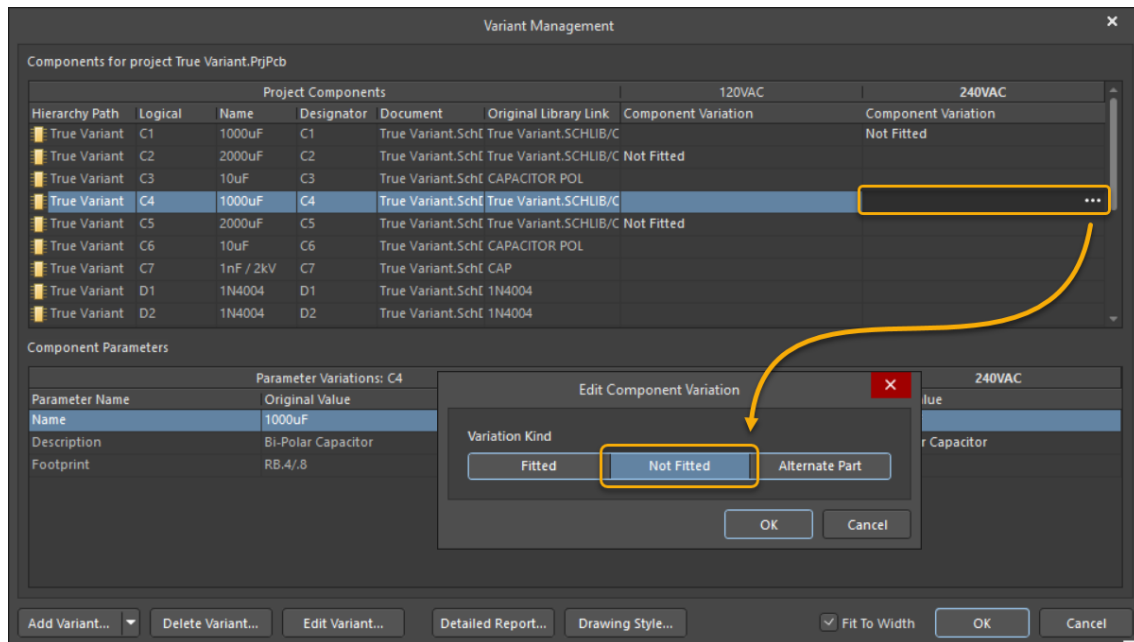

Figure 4. Setting up fitted and not fitted parts
13. You will set both C2 and C5 to **Not Fitted** for the 120VAC column. To do this, select the *Component Variation* cell for variant 120VAC. You can use Figure 4 as a reference.